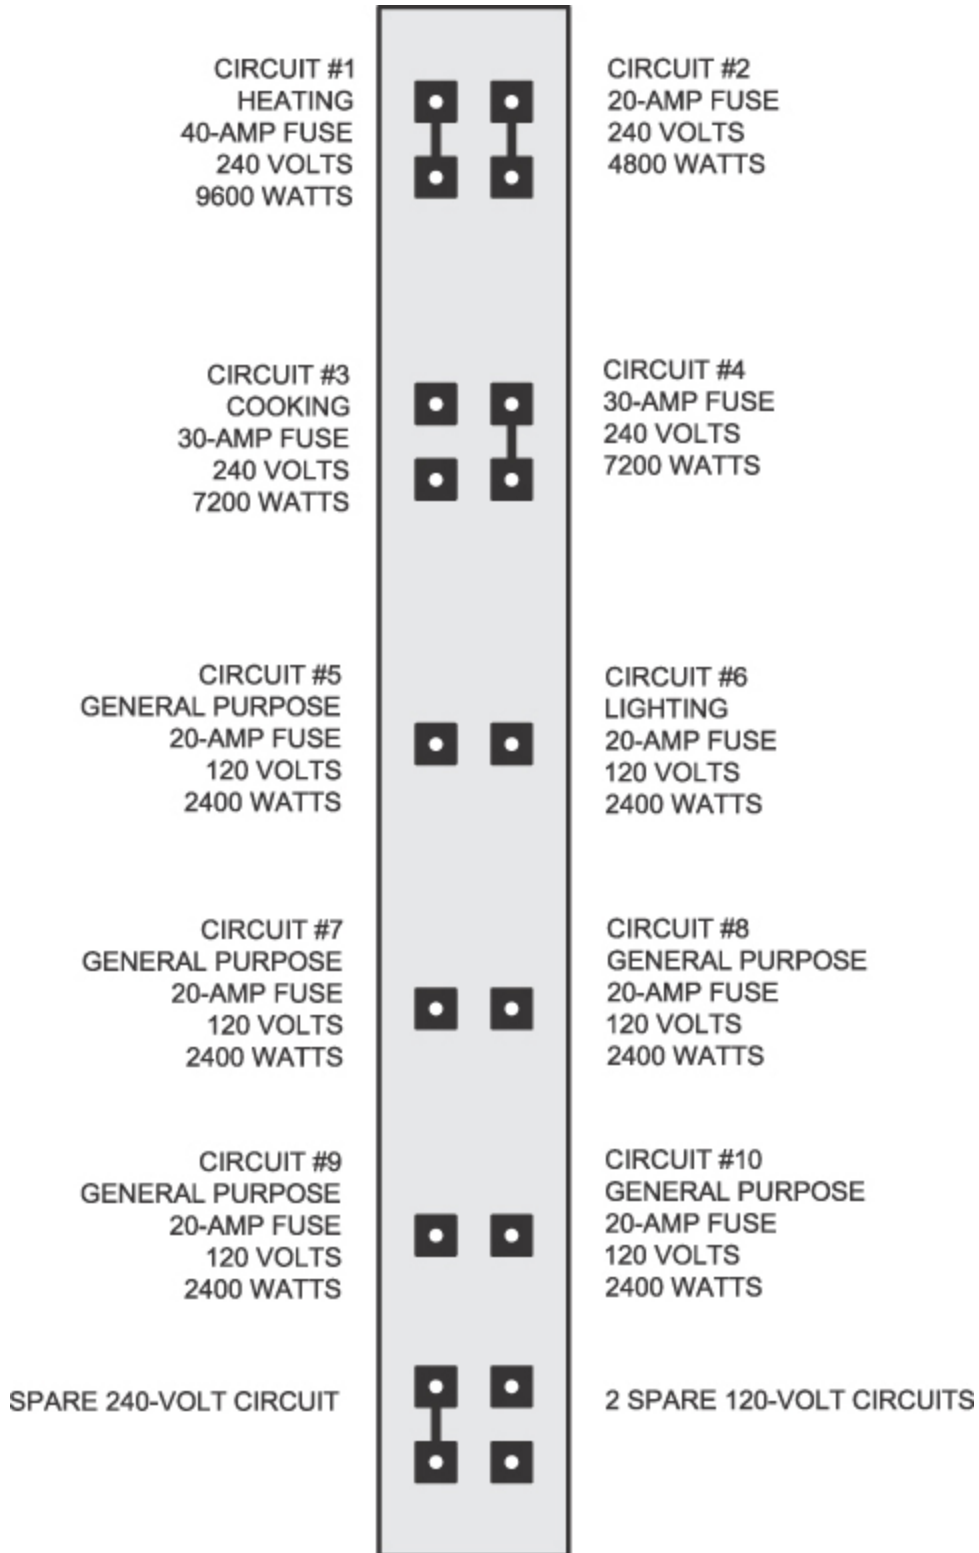

Figure 11-69
2. Add the electrical annotation shown in Figure 11-69. Place all annotation on the **E-Anno** layer.